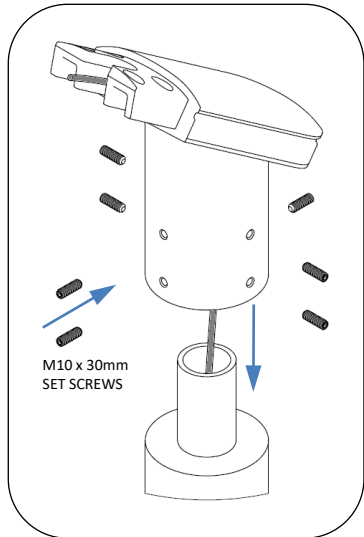

Fig.5 – Attach luminaire bracket
1. Route the line voltage wires (provided by others) up the pole and through the opening at the top of the pole. See Fig. 5.
2. Route the wires through the luminaire mounting bracket, see Fig. 5.
3. Attach the mounting bracket to the pole using (8) M10 x 30mm set screws. Tighten set screws using a 5mm hex key. See Fig. 5.